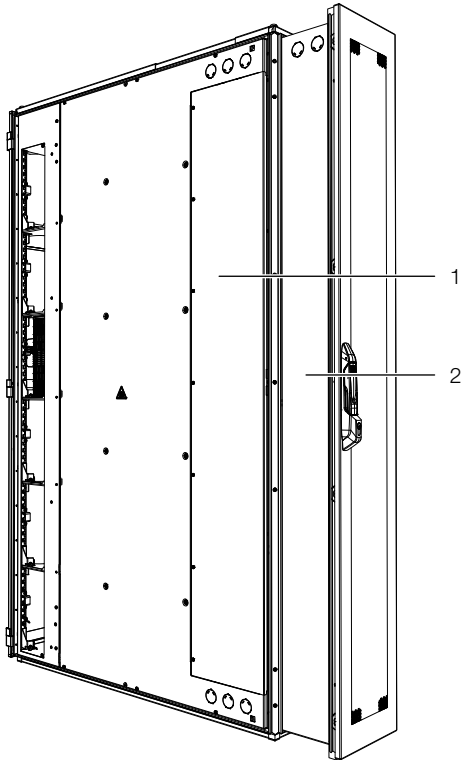

Fig. 36: Adaptor on the LCP Inline
- Attach the adaptor (fig. 36, item 2) to the rear opening of the LCP Inline using four of the supplied screws (fig. 36, item 1) each on the left and right.